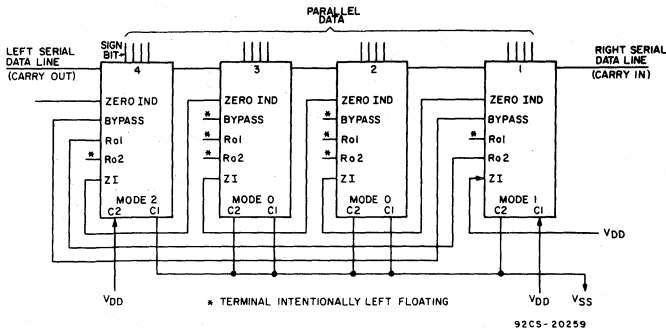

Fig. 11 — Connection for 16-bit arithmetic logic unit.
Data-flow interruptions are shown by shaded areas. With these three ALU's and the four available modes, 61 more system combinations can be formed. If 4 ALU's are used, 44 combinations (256) are possible. Fig. 11 shows a diagram of 4 CD4057A's interconnected to form a 16-bit parallel processor.
The condition of "all zeros" is indicated by a "1" on the Zero Indicator terminal of the "Most Significant" CD4057A. As shown in Fig. 11, terminal Z1 of the CD4057A containing the least significant set of bits is connected to VDD. Zero indication is independent of modes.